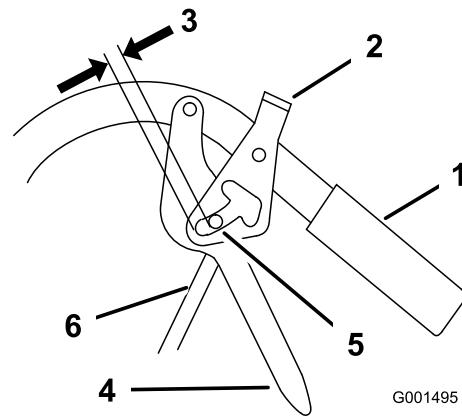

Figure 45
3. Install the control rod to the drive lever and the neutral/parking brake lock. Secure the control rod with a clevis pin and a hairpin cotter (Figure 45).
2. Adjust the control rod length by threading the rod in or out of the rod fitting until there is a 3/16 to 1/4 inches (5 to 6 mm) clearance between the control rod and the bottom of the neutral/parking brake lock (Figure 45).